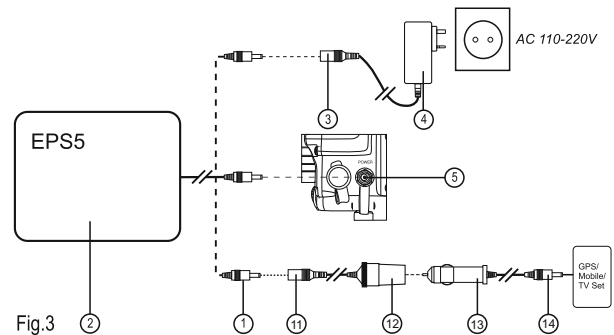

Fig.3
- Connect the plug (1) of a Battery pack to the jack (11) of the car lighter adapter (Fig.3).
- Connect the car adapter (13) to the jack (12) of the connector.
- Connect the second plug (14) of the car adapter to an external device.